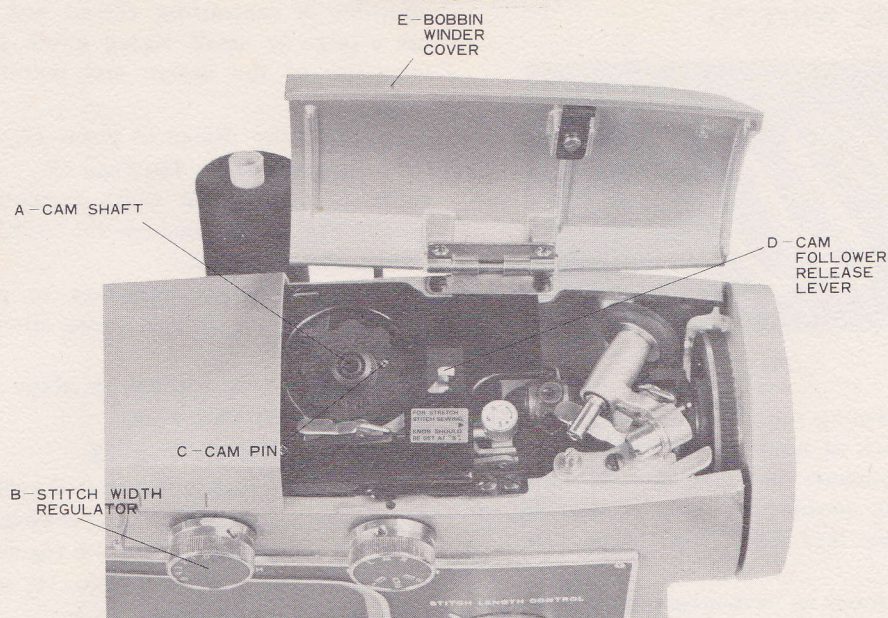
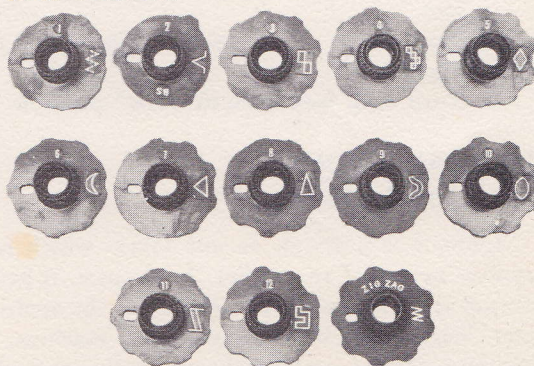

Fig. 20 Inserting Discs
Fig. 21
1. Raise cam cover (E) Fig. 20.
2. Hold cam follower release lever (D) Fig. 20 in forward position. Place zigzag cam No. 1 on cam shaft (A), making certain that cam pin (C) fits into hole in cam. Then release the lever.
Your zigzag machine is equipped with 12 cams. Each of the cams when placed on the machine will make one of the patterns shown in Fig. 21. The pattern of stitching that each cam makes is shown on top of each individual cam. Select the cam for the pattern you desire and place the cam on the machine in the following manner: See Fig. 20
1. Raise bobbin winder cover (E).
2. Hold cam follower release lever (D) Fig. 20 in forward position while placing selected cam on cam shaft (A), making certain that cam pin (C) fits into hole in cam.
3. Set stitch width knob (B) at No. 5.
4. Set stitch length regulator knob (F) as near to "0" as possible, as described on page 14, "SATIN STITCH".
5. Lower the presser foot and begin to sew in the normal manner and the machine will make the pattern you have selected as shown in Fig. 21. Endeavor to sew at the same speed at all times when using cams.